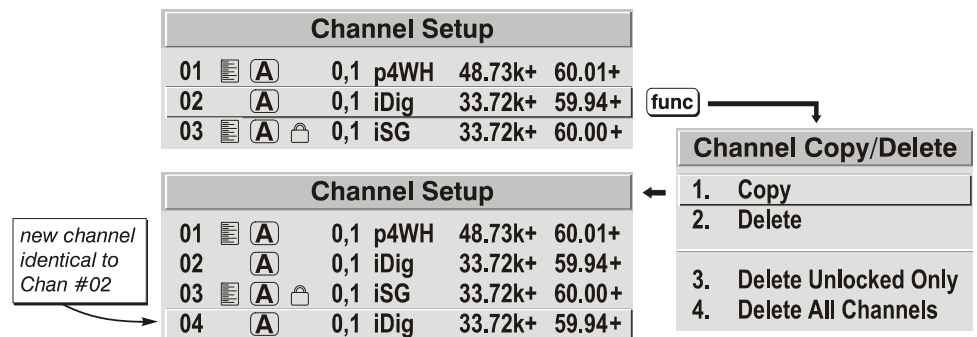

Figure 3.11. Copying a Channel
▶ **TO COPY A CHANNEL**, highlight the desired channel in the *Channel Setup* menu, and then press **[Func]** to go to the *Channel Copy/Delete* submenu. Select “Copy” and press **[Enter]**—a new channel will be created. It is identical to original, which still remains, but it is identified with the next available number from 01-50 (Figure 3.11). If you change your mind and do *not* want to copy the current channel, press **[Exit]** to cancel and return to the previous menu. Copying channels is a quick method for creating numerous channels, each of which can then be edited and adjusted for a variety of presentations in the future.